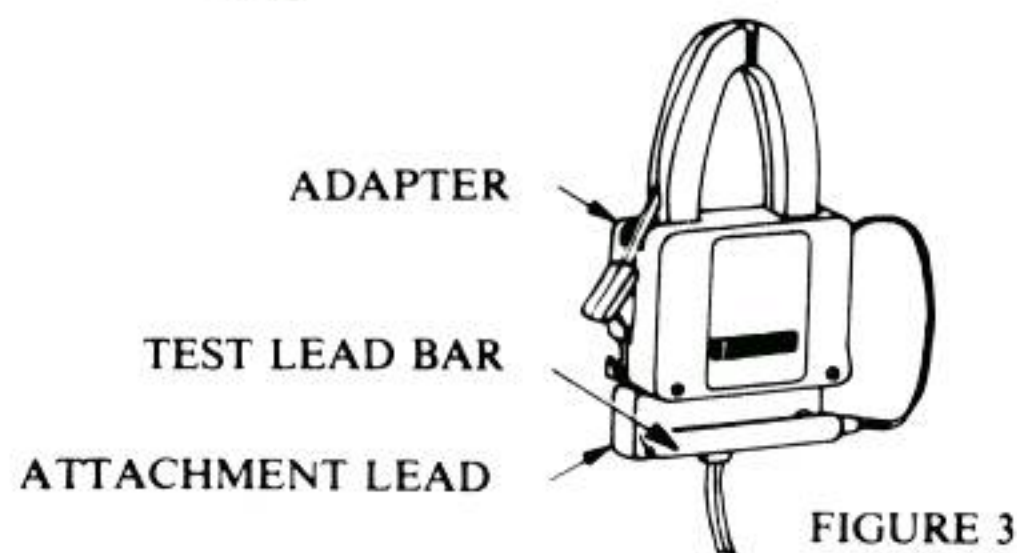

FIGURE 3
2. Install the adapter on the top of the attachment lead. Rotate the lever back against the adapter (See Figure 3).
3. Plug test lead bar into attachment lead (See Figure 3).